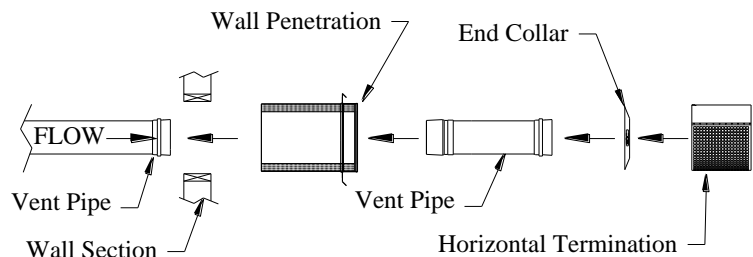

Fig 13. (Wall Penetration)
2. From the outside, position the Wall Penetration into the hole (See Fig. 13).